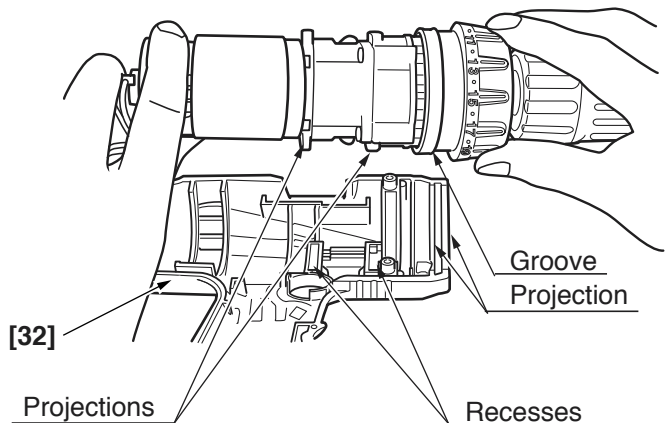

Fig. 16
(b) Install the assembly reassembled in step (3) into Housing (A) [32]. Note that the projections on the Front Case [9] and the Motor Spacer [27] are engaged in the recesses in Housing (A) [32], and the projection on Housing (A) [32] is engaged in the groove of the Cap [4]. (See Fig. 16.)